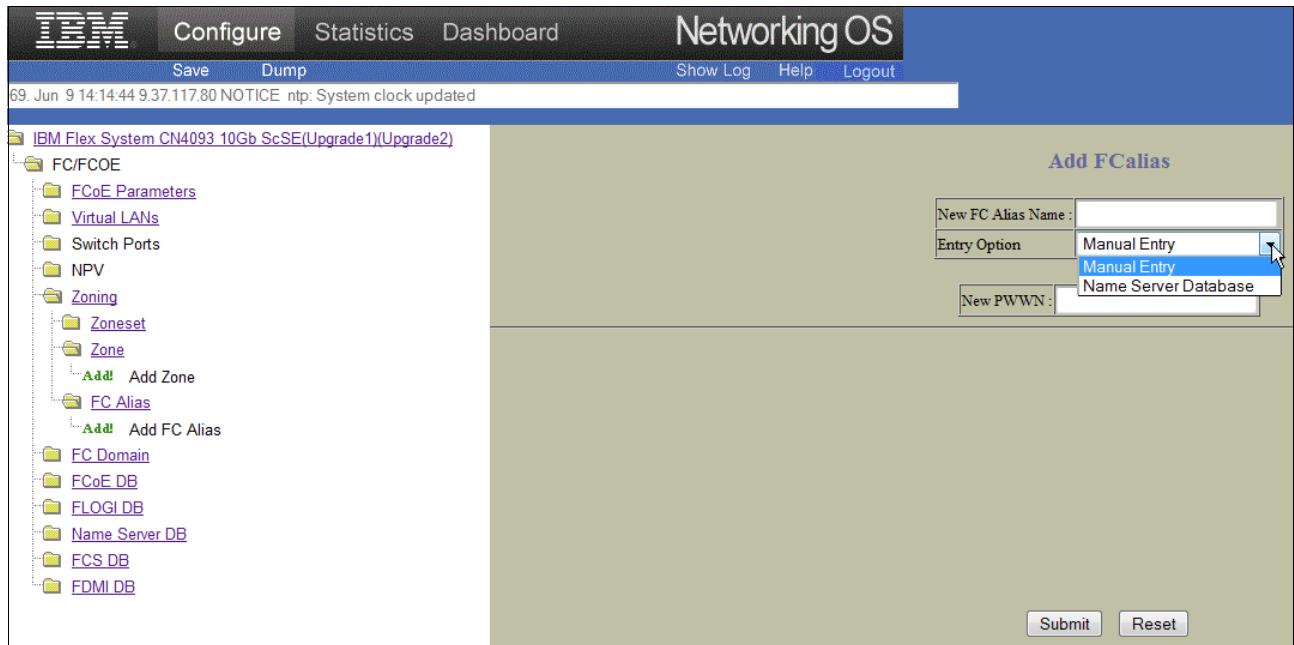

Figure 8-9 Manual Entry or Name Server Database Selection
9. When creating the alias, you can choose to manually enter the WWPN or acquire it from the Name Server Database as shown in Figure 8-9.